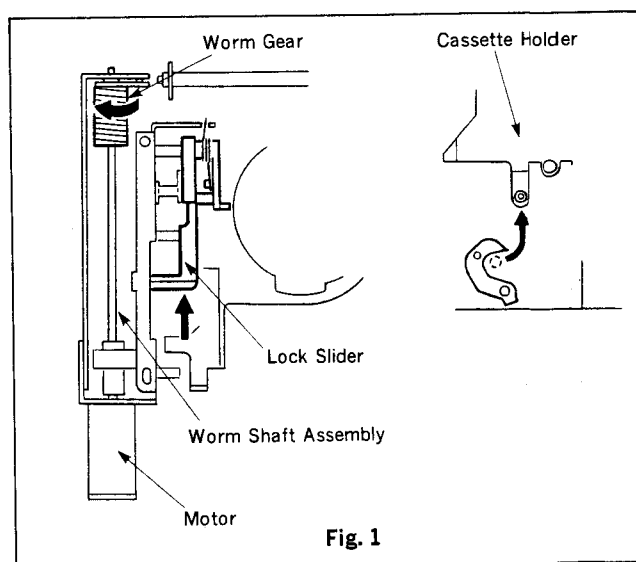

Fig. 1
1. Turn the Worm Gear in the direction of the arrow for releasing the lock of the Cassette Holder while pushing the Lock Slider in the direction of the arrow by hand. (fig.1) Then the Cassette Holder gradually rises and the cassette tape is ejected.
2. Remove the two fixing screws and remove the Motor Bracket, Motor and Worm Shaft Assembly. Push the Lock Slider in the direction of the arrow as shown in figure 1. Raise the Cassette Holder by hand and the cassette tape is ejected.